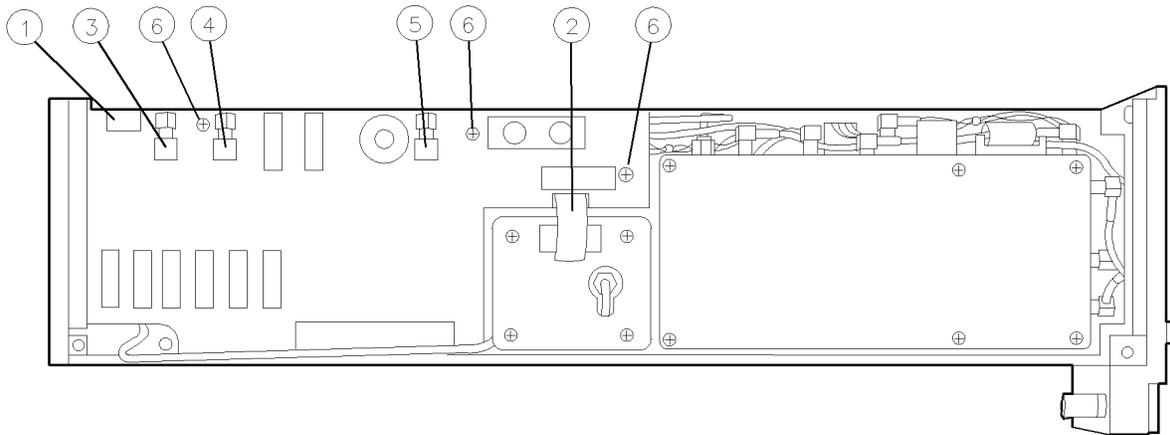

Figure 9-18. A8 Frequency Control Removal/Replacement
1. Disconnect A11 wiring harness ① and ribbon cable W15 ②. See Figure 9-18.
2. Disconnect coaxial cables W10 ③, W12 ④, and W4 ⑤ from the A8 frequency control.
3. Remove the three screws ⑥ from the assembly.